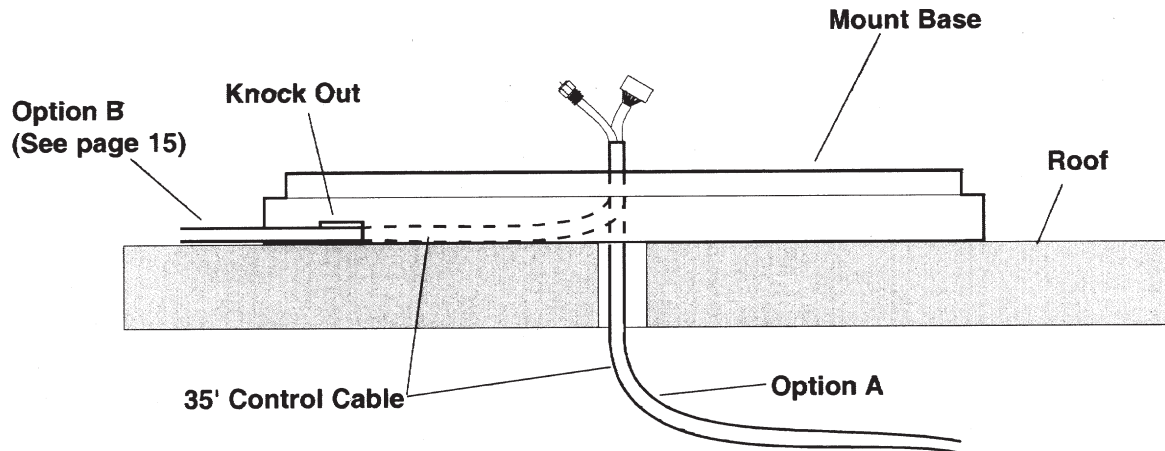

Figure 5
1. Your RV/coach design (i.e. flat roof, rounded roof, obstructions, etc.) will determine how and where you mount the system. You have two options for running the control cable; Option A: Run the cable straight down from the mount (see Figure 5) or Option B (see page 15, cable roof-thru plate installation): Snap the knockouts on the base and run the cable to a different entry point (refrigerator vent, etc.)\*. Figure 6 shows the knock out location on the base..